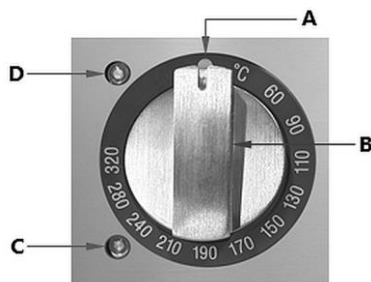

Fig. 3
2. Turn the temperature control (B, Fig. 3) for the respective heating zone clockwise to switch on the appliance.
1. When cooking/frying is complete and the appliance is no longer in use, turn the temperature control knob(s) to the OFF position (1, Fig. 3).